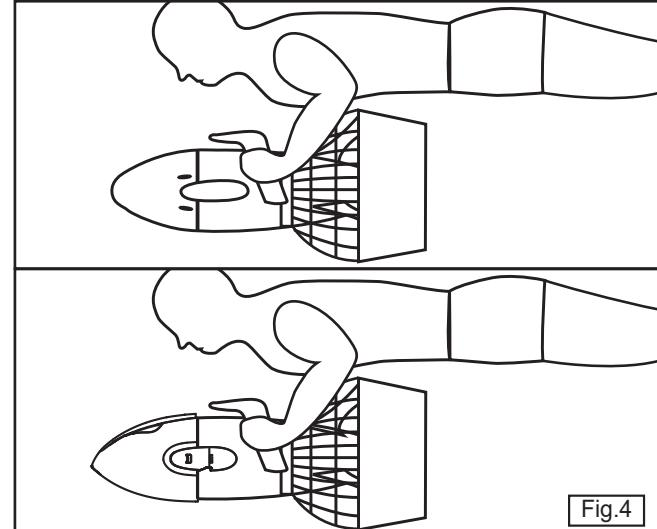

Fig.4
9. Proper posture when using the SEASCOOTER™ is important to achieve the maximum speed - see figure 4 for the correct position of the SEASCOOTER™ when using it.